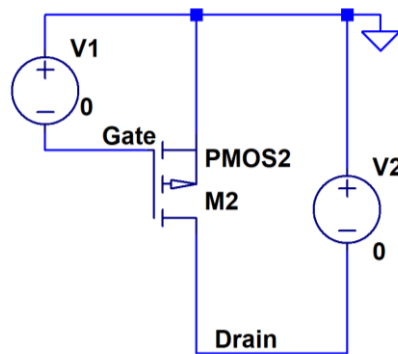

Fig. 3. PMOS transistor CS characteristics test circuit.
3. Repeat step 2 for a PMOS transistor model. You will have to redraw the circuit so V1's polarity is $+V_{SG}$ and V2's polarity is $+V_{SD}$. Make sure the transistor's source terminal is connected to ground. See Fig. 3.